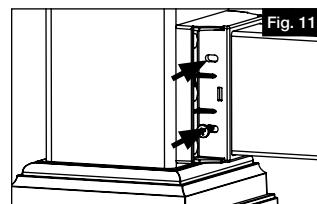

Fig. 11
- Install #10 x 1" screws in all pre-drilled holes (Fig. 11).